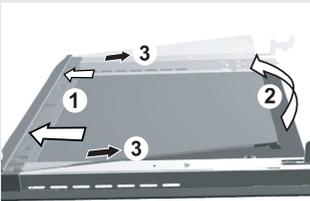

Figure 1
- Hold the door glass pane by its lower edge. Pull it gently towards yourself and lift it slightly – but not too far – by a maximum of 10 mm, until the glass support wedge slips out of the groove (Figure 1).